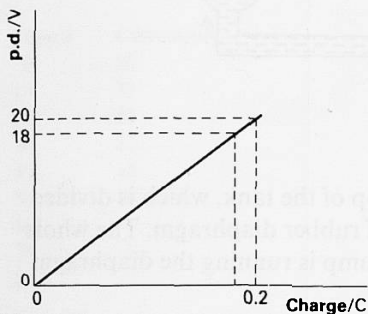

Figure B87
- 37(L)** Electric charge is stored on a capacitor, and as indicated in figure B87, at 20 V the charge stored is 0.2 C.
- c** During this discharge the p.d. was first a little above 19 V, and then a little below. How much energy was transformed? Shade, on a copy of figure B87, an area that represents this energy.
- e** On your copy of figure B87, shade in an area which represents the total energy transformed when the p.d. drops from 20 V to 16 V.
- g** The total energy can also be calculated using the formula  $\frac{1}{2}QV$ . Why are the two answers the same? What area on figure B87 represents this total energy?